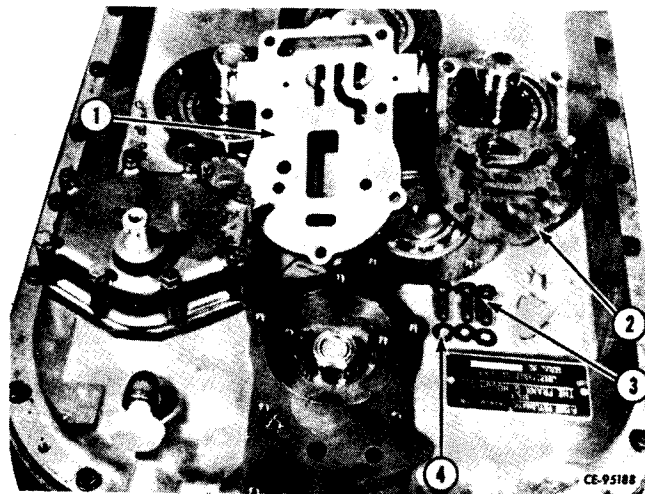

Figure 4-68
Using a new gasket (2, Fig. 4-68), install the neutral knockdown valve (1). Retain valve assembly with cap screws (3) and lock washers (4).